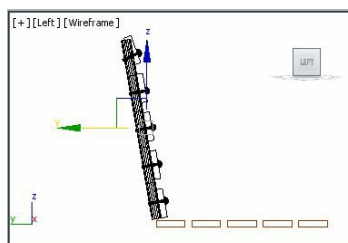

Figure 2-82 Alignment of back support in the Left viewport
3. Choose the **Select and Move** tool and align *back support* with *horizontal seat support*, as shown in Figure 2-82.